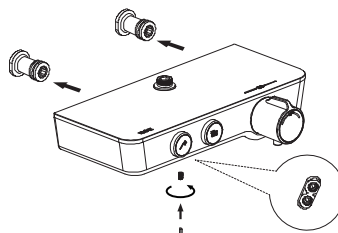

Figure 4
a) Connect the thermostatic shower bar ⑩ onto the curved connectors (Figure 4). Left side is hot water and right side is cold water. Use the Allen key to secure.